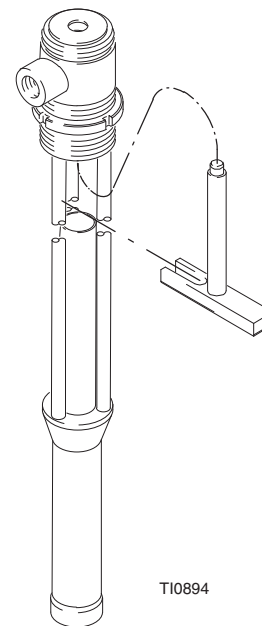

Fig. 5
1. Unscrew the air motor connecting ring (AA). Lay the pump on its side and rotate the displacement pump until the ball on the upper connecting rod (120) comes free of the socket in the motor piston rod. Separate the motor from the displacement pump.
2. Unscrew the intake valve housing (117) from the pump frame (119). Disassemble the intake valve.
3. Push down on the upper connecting rod (120) until the fluid piston assembly is clear of the displacement pump frame (119). Pull the piston assembly and connecting rod out of the frame. Remove the bearing (118) and seal (134\*\*) from the frame.
**NOTE:** Scoring or irregular surfaces on the connecting rods (120, 115) or polished inner wall of the pump frame (119) can cause premature packing wear and leaking. To check these parts, rub a finger over the surface or hold the part up to the light at an angle.
4. Unscrew the piston valve housing (109) from the lower connecting rod (115). Unscrew the piston body (113) from the piston valve housing (109).
5. Unscrew the lower connecting rod (115) from the upper connecting rod (120). Remove the cup packings (107), bearing (108) and backup washer (114).
6. Lubricate the packings (107\*\*) and bearing (108\*\*) with no. 2 lithium-based grease. Install the backup washer (114) on the lower connecting rod (115), making certain that the grooves face up.
7. On the upper connecting rod (120), install one cup packing (107\*\*) with the lips facing up, the bearing (108\*\*), and the second packing (107\*\*) with the lips facing down. Reconnect the upper and lower connecting rods. Torque to 20-25 ft-lb (27-34 N.m).
8. Lubricate the packings (111\*\*) and bearing (112\*\*) with no. 2 lithium-based grease. On the piston (113), install one cup packing (111\*\*) with the lips facing down, the bearing (112\*\*), and the second packing (111\*\*) with lips facing up. Install the backup washer (110), with the grooves facing down.
9. Place the ball (104\*\*) atop the piston body (113), then screw the piston body and piston housing (109) together. Torque to 30-35 ft-lb (41-48 N.m). Screw the piston valve housing onto the lower connecting rod (115). Install the seal (134\*\*), *with the lips facing down*, in the displacement pump frame (119), then install the bearing (118\*\*). The seal (134\*\*) should be installed from the bottom of the frame using tool 233582. See fig. 5. Use a turning motion to work the connecting rod and piston back into the pump frame (119).
2. Unscrew the intake adapter (321) from the intake valve housing (317). Remove the o-ring (322). Unscrew the intake valve housing (317) from the pump frame (319). Disassemble the intake valve.
3. Push down on the upper connecting rod (320) until the fluid piston assembly is clear of the displacement pump frame (319). Pull the piston assembly and connecting rod out of the frame. Remove the bearing (318) and seal (334\*\*) from the frame.
**NOTE:** Scoring or irregular surfaces on the connecting rods (320, 315) or polished inner wall of the pump frame (319) can cause premature packing wear and leaking. To check these parts, rub a finger over the surface or hold the part up to the light at an angle.
4. Unscrew the piston valve housing (309) from the lower connecting rod (315). Unscrew the piston body (313) from the piston valve housing (309).
5. Unscrew the lower connecting rod (315) from the upper connecting rod (320). Remove the cup packings (307), bearing (308) and backup washer (314).
6. Lubricate the packings (307\*\*) and bearing (308\*\*) with no. 2 lithium-based grease. Install the backup washer (314) on the lower connecting rod (315), making certain that the grooves face up.
7. On the upper connecting rod (320), install one cup packing (307\*\*) with the lips facing up, the bearing (308\*\*), and the second packing (307\*\*) with the lips facing down. Reconnect the upper and lower connecting rods. Torque to 20-25 ft-lb (27-34 N.m).
8. Lubricate the packings (311\*\*) and bearing (312\*\*) with no. 2 lithium-based grease. On the piston (313), install one cup packing (311\*\*) with the lips facing down, the bearing (312\*\*), and the second packing (311\*\*) with the lips facing up. Install the backup washer (310) with the grooves facing down.
9. Place the ball (304\*\*) atop the piston body (313), then screw the piston body and piston housing (309) together. Torque to 30-35 ft-lb (41-48 N.m). Screw the piston valve housing onto the lower connecting rod (315). Install the seal (334\*\*), with the lips facing down, in the pump frame (319), then install the bearing (318\*\*). The seal (334\*\*) should be installed from the bottom of the frame using tool 233583. See fig. 5. Use a turning motion to work the connecting rod and piston into the frame (319).
10. Reinstall the ball (305\*\*) and stop pin (316) in the intake valve housing (317). Screw the housing into the pump frame (319). Place the o-ring (322\*\*) into the inner groove of the intake adapter (321). Screw the adapter onto the intake valve housing (317).
11. Lay the pump on its side and reconnect the upper connecting rod (320) with the air motor piston rod. Tighten the air motor connecting ring (AA).